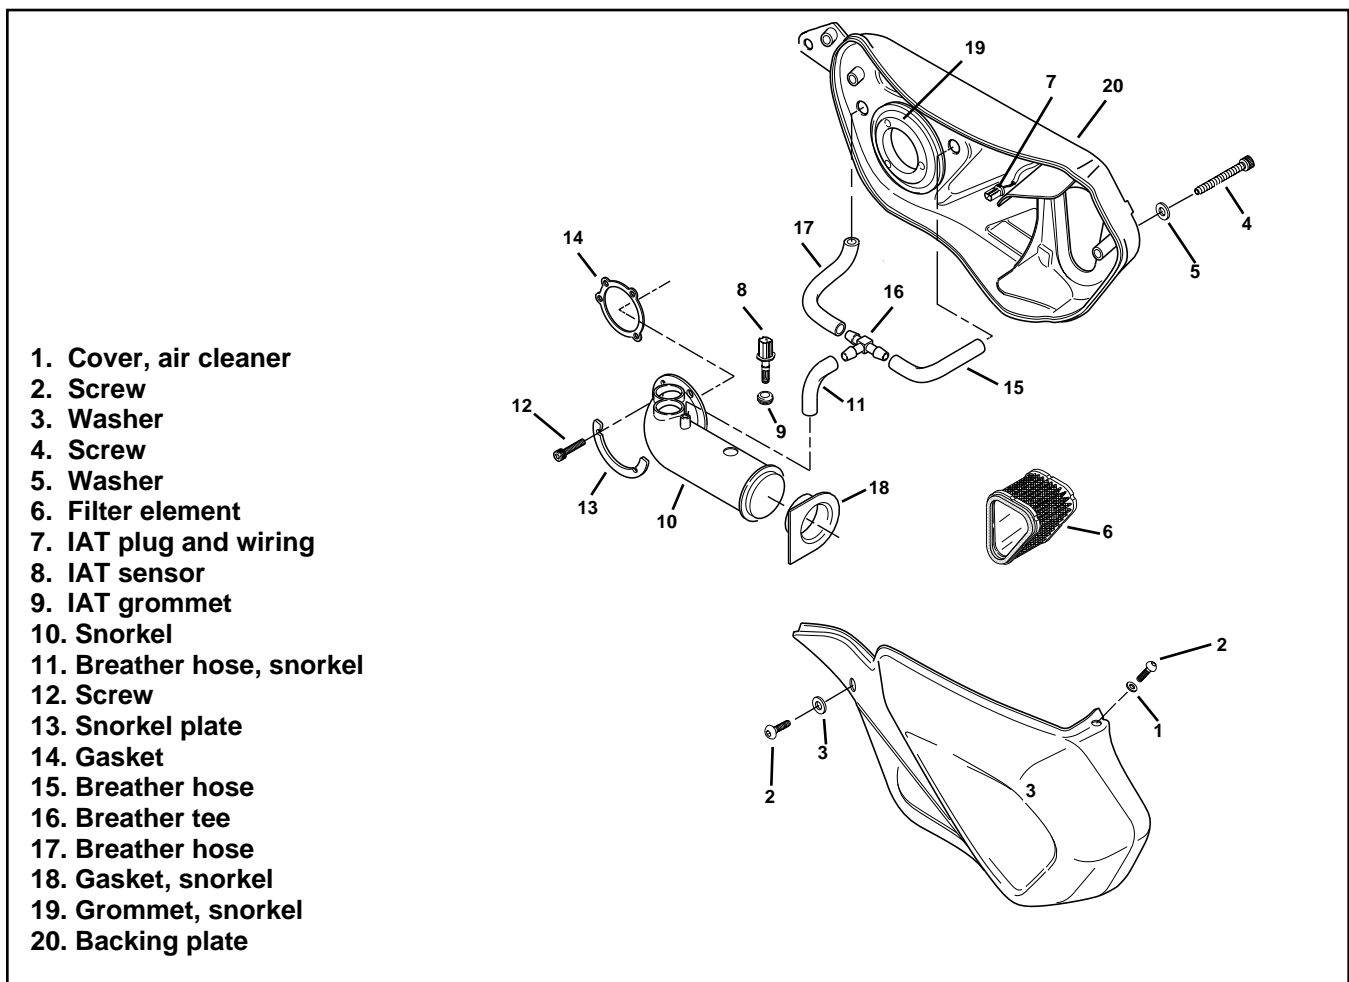
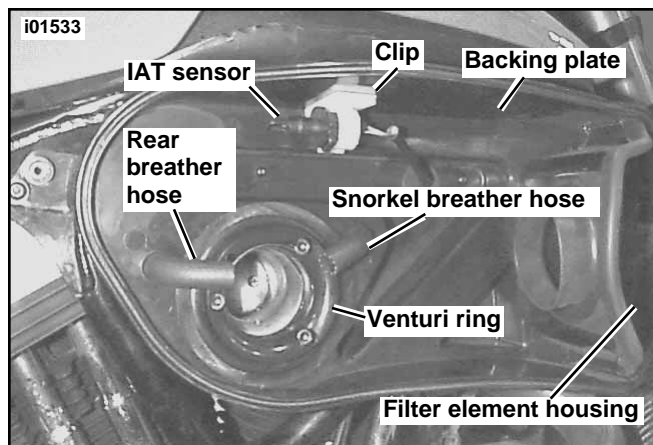

Figure 9. X1 Stock Air Cleaner
Figure 10. X1 Race Air Cleaner Installation
2. See Figure 9. Remove two screws (2) and washers (3) from front and one bolt (4) and washer (5) from back of air cleaner cover (1).
3. Remove air cleaner cover (1) and air filter (6).
4. Remove IAT sensor (8) from top of snorkel (10).
5. Remove hose (11) from snorkel (10).
6. Remove three screws (12) from snorkel plate (13). Remove snorkel plate (13), snorkel (10) and gasket (14) from back plate (20).
1. See Figure 10. Install the Venturi ring. Carefully place Venturi on snorkel grommet (Item 19, Figure 9) and install bolts (Item 12, Figure 9) removed earlier using LOCTITE THREADLOCKER 243 (blue). Torque bolts to 7-9 ft-lbs (9.5-12.2 Nm).
2. See Figure 9. Remove snorkel breather hose (11), tee (16) and rear breather hose (17).
3. See Figure 10. Install snorkel breather hose (11), removed in Step 2, on rear breather bolt. Position as shown.
- b. Remove paper backing from clip and stick clip, with sensor, to top of backing plate as shown in Figure 10.
7. See Figure 9. Reinstall air cleaner cover.
- a. Position air cleaner cover (1) over air cleaner backing plate (20), making sure air filter element is correctly positioned.
- b. Install long bolt (4) and washer (5) first.
- c. Align air cleaner cover (1) and secure with two screws (2) and washers (3) using LOCTITE THREADLOCKER 243 (blue). Torque to 27-29 in-lbs (3.1-3.3 Nm).